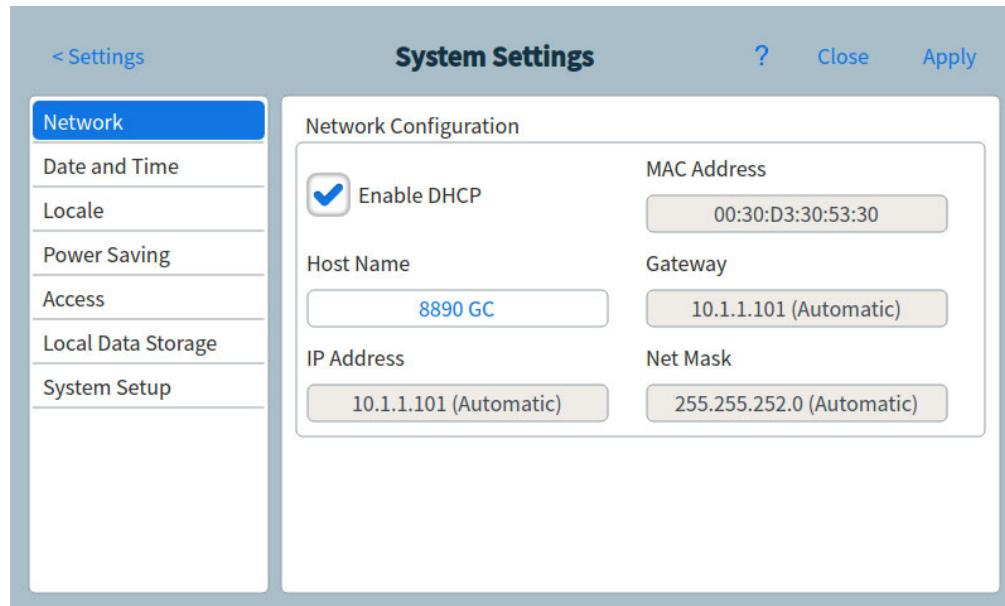

Figure 48. Network Configuration page
- 1 From the System Settings page, select the **Network** page selection button. The Network Configuration page appears. See **Figure 48**.